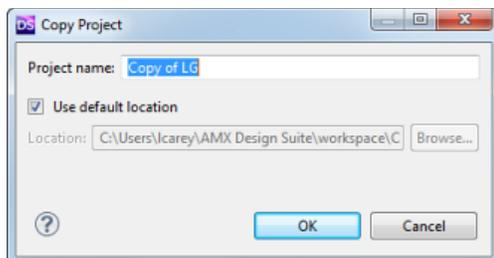

FIG. 19 Copy Project dialog
3. Right-click in the Project Explorer and select **Paste** from the context menu. This action invokes the *Copy Project* dialog (FIG. 19):